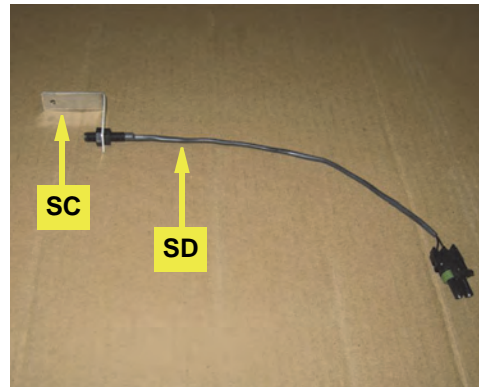

Figure 1c: Installed sensor in sensor bracket
- c. Connect sensor **SD** to bracket **SC** (Figure 1c).